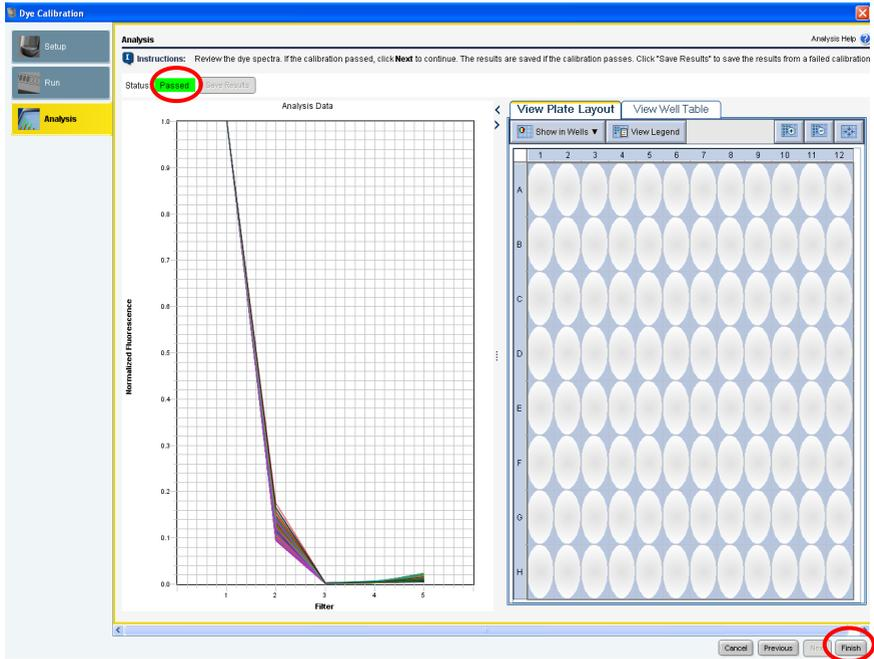

Figure 10. Display of dye spectra and status.
11. The spectra and the status (e.g., passed) will be displayed (Figure 10). Click **Finish**.